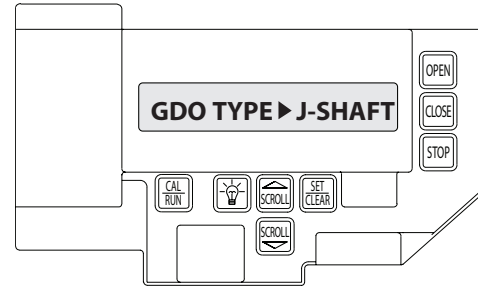

Figure 3
Operator Type Fig. 3
- 2) Press SCROLL  key until display reads "GDO TYPE >." **Figure 3.** This will display the current GDO type.